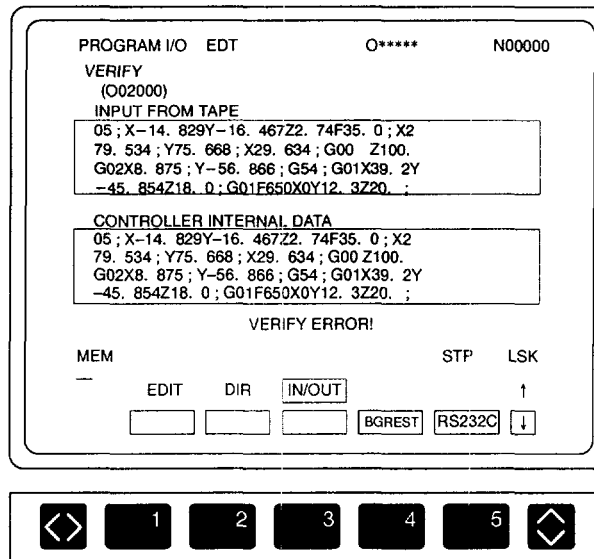

Fig. 4.46 Screen after Occurrence of Inconsistency
- ① Press the [VER] (f3) function soft-key.
- ② Press the [VER] (f3) function soft-key once again. The pop-up menu is displayed to allow the selection between “EACH” and “ALL” (Fig. 4.46).
- ③ Select “ALL” by moving the cursor with the cursor up/down keys and press the [WR] key.
- ④ The pop-up menu is cleared and the VERIFY (ALL) screen is displayed.
- ⑤ The “ALL PROG. VERIFY” message is displayed, and the message “VERIFY OK? (Y/N)” is displayed.
- ⑥ Verification is started and the list of the part programs (input from the tape) to be compared with the part programs stored in the NC memory is displayed on the screen.
- If inconsistency is found between the contents of the part programs stored in the NC memory and the contents of the one input from an external device, the screen changes as shown in Fig. 4.46 and inconsistent parts are highlighted.